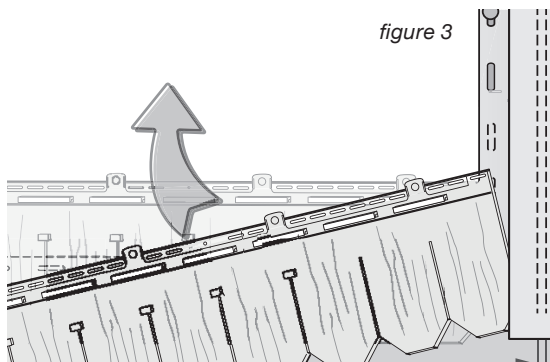

figure 3
2. Starting on the right side of the wall, hook the bottom locking leg of the panel into the hanger and slide panel into the cornerpost or receiving channel (figure 3). Leave 1/4" space between the panel and the corner for expansion.